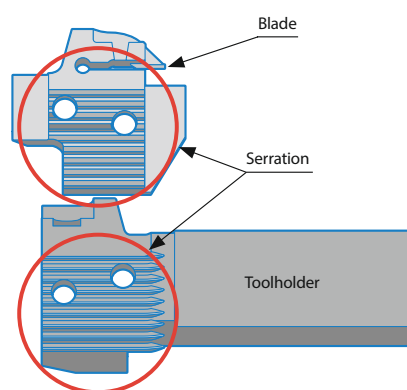

Fig. 1
1. Use compressed air or other measures to remove chips and dust from the serration part (See Fig. 1).